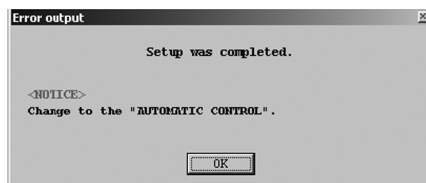

Fig.36
- ⑥ When the previous settings are replaced with the new settings just entered in response to clicking on "OK", a message box as shown in Fig. 36 appears. Clicking on "OK" button at this point completes the setup.